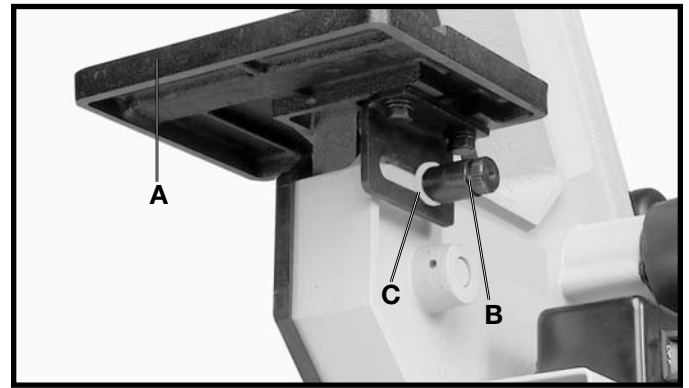

Fig. 17
2. Position the table assembly (A) Fig. 17, in position on the belt sander frame. Place a 10mm flat washer (C) Fig. 17, on the locking stud (B), and thread locking stud (B) into threaded hole in casting to hold table assembly in place, as shown.